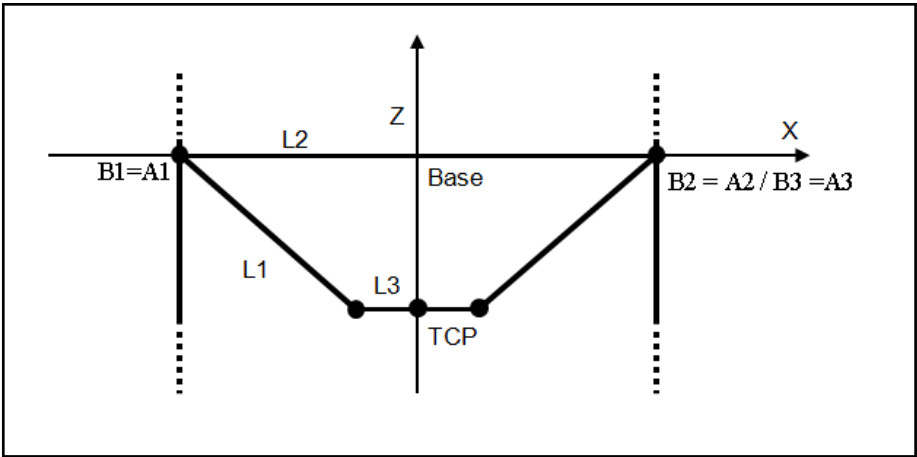

Fig. 4-27: Zero position of the axes
- fig. 4-27 "Zero position of the axes" on page 136 shows a delta linear robot at zero position of all axes, i.e. if the robot is in the position shown in the figures, the machine coordinates (MCS) for all of the axes have to be zero.